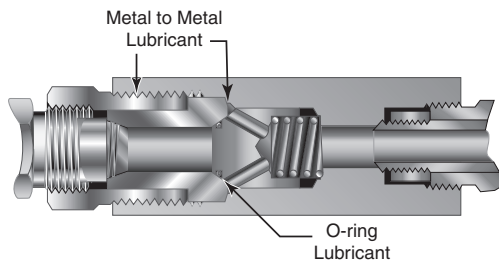

Figure 3
4. Check Valves - The gland nut should be lubricated on the external threads and at the end where it contacts the cover. The cover should be lubricated at the sealing surface where it contacts the body. For o-ring check valves, a small amount of o-ring lubricant on the o-ring will help swell the elastomer and aid sealing. Refer to Figure 3 for lubrication sites on check valves.